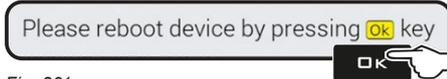

Fig. 301
- The message in Fig. 301 is displayed once loading is completed. Reboot the device by pressing key **OK**.